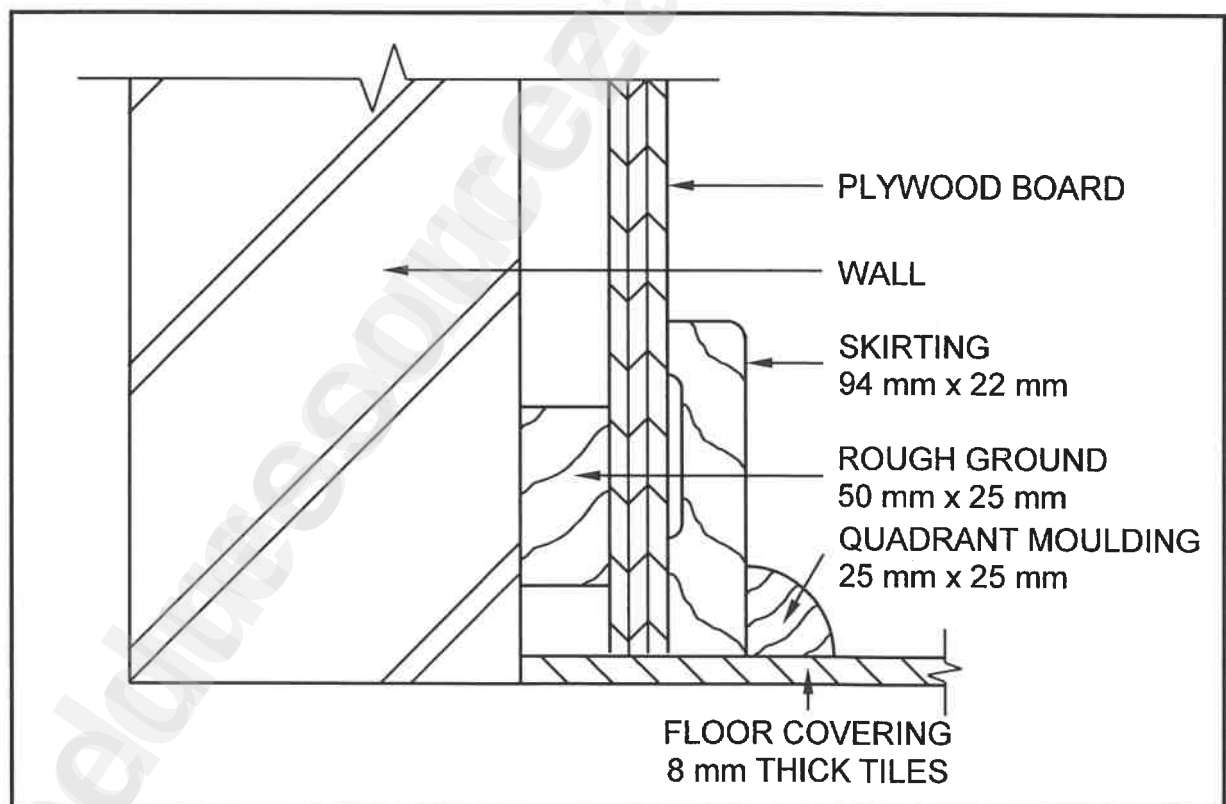

FIGURE 3.3
- 3.3 FIGURE 3.3 below shows the sectional left view at the bottom of the wall panelling.
Use ANSWER SHEET 3.3 and draw the front view of FIGURE 3.3 between the broken lines. Use scale 1 : 2 and show ALL the hidden detail.